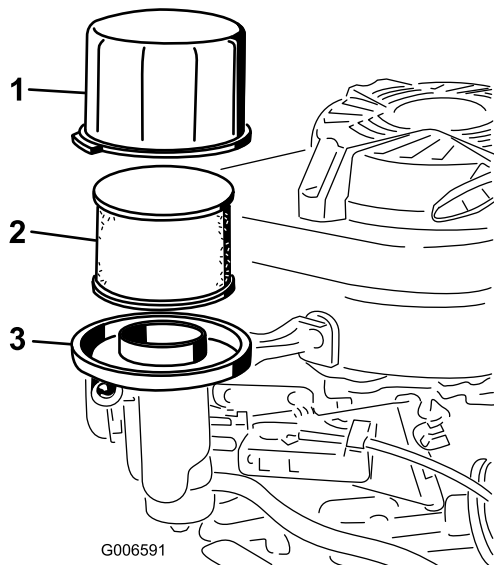

Figure 28
3. Remove the cover and clean it thoroughly (Figure 28).
4. Remove the foam pre-filter and paper filter (Figure 28).
5. Remove the foam pre-filter from the paper filter (Figure 28), and replace the paper filter if it is excessively dirty.